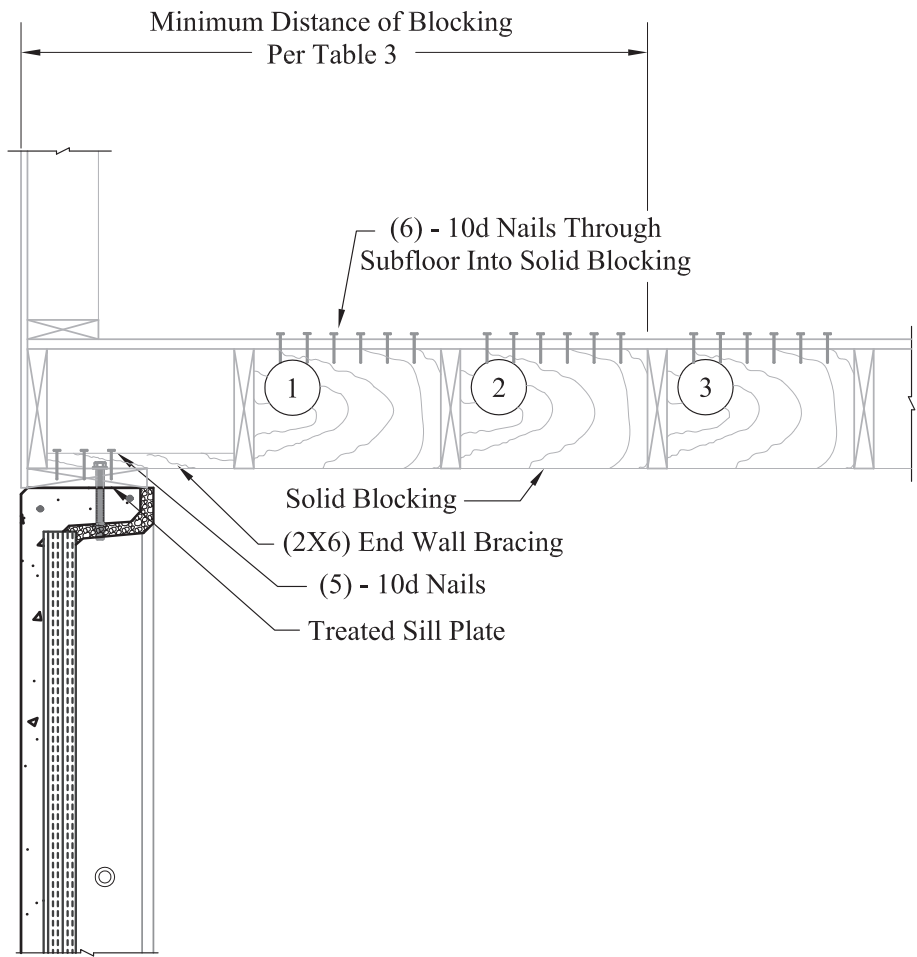
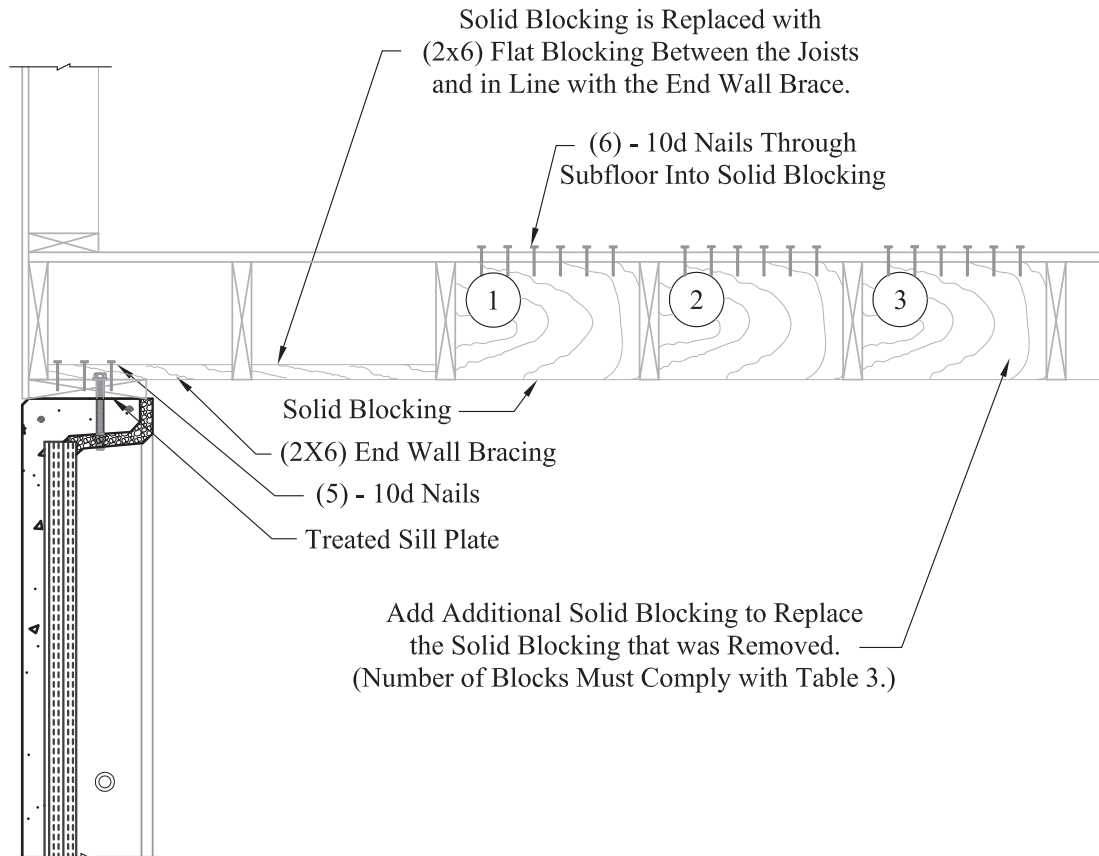

Figure 19
Figure 21
- Nail a 2 x 6 end wall brace securely to the sill plate with five 10d nails every 48" on center. (Braces must be within 12" from the interior of each corner.) See Figure 19 on page 27 and Figure 20 on page 28.
To accommodate for HVAC ductwork that is located where Solid Blocking is shown in Figure 19 on page 27 and Figure 20 on page 28, additional blocking is required as shown in Figure 21 (below).
- Solid Blocking is replaced with 2x6 Flat Blocking. (Locate Flat Blocking between the joists and in line with the 2x6 End Wall Braces.) (See Figure 21.)
- When not using the Framing Strap: Nail 2x6 End Wall Bracing to the sill plate using five 10d nails. See Figure 19 on page 27 and Figure 20 on page 28.